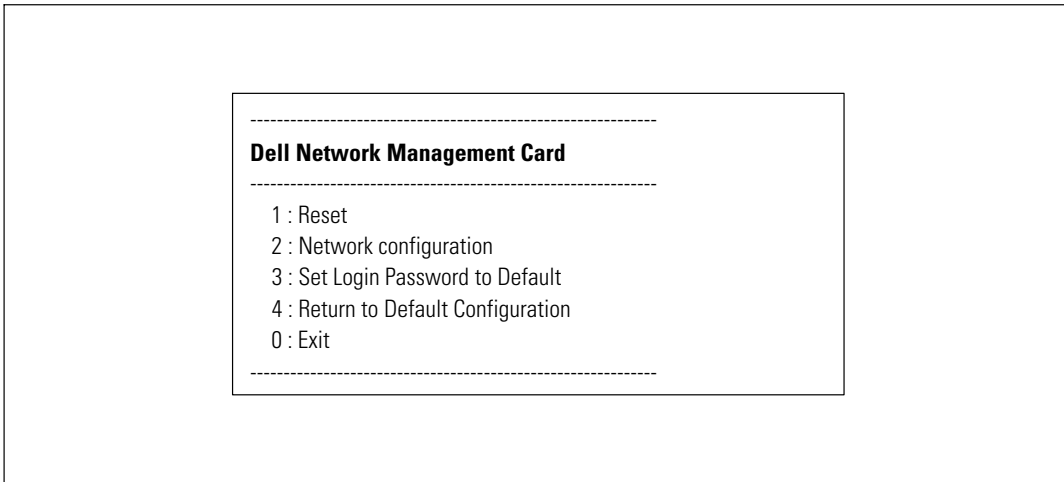

Figure 38. Dell Network Management Card Main Menu
- 3 Enter the **admin** password (not modifiable). The Dell Network Management Card main menu displays (see Figure 38).